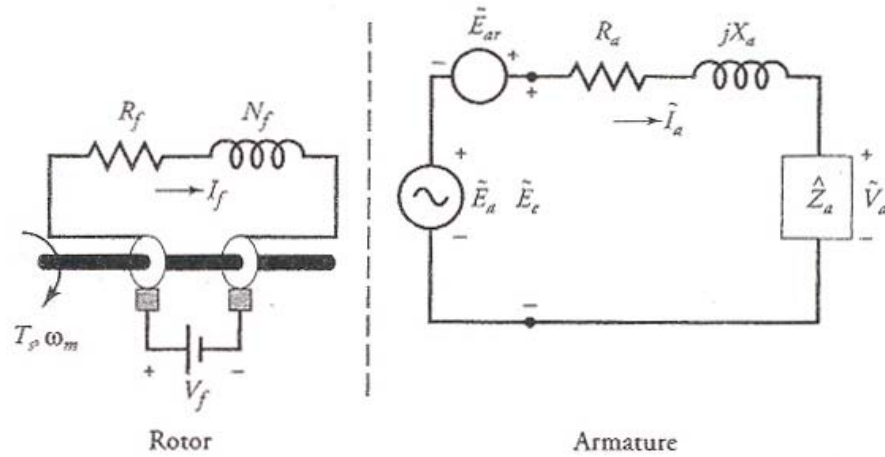

Figure 3: A per-phase equivalent circuit showing the induced emf in the armature winding due to the armature reaction.
- (d) The flux  $\Phi_{ar}$ , in turn, induces an emf  $\tilde{E}_{ar}$  in the armature winding.  $\tilde{E}_{ar}$  is called the **armature reaction** emf. The armature reaction emf  $\tilde{E}_{ar}$  lags the flux  $\Phi_{ar}$  by  $90^\circ$ . Hence the effective generated voltage per-phase  $\tilde{E}_e$  is the algebraic sum of the no-load voltage  $\tilde{E}_a$  and the armature reaction emf  $\tilde{E}_{ar}$ . That is,  $\tilde{E}_e = \tilde{E}_a + \tilde{E}_{ar}$ . An equivalent circuit showing the armature reaction emf is given in Figure 3.